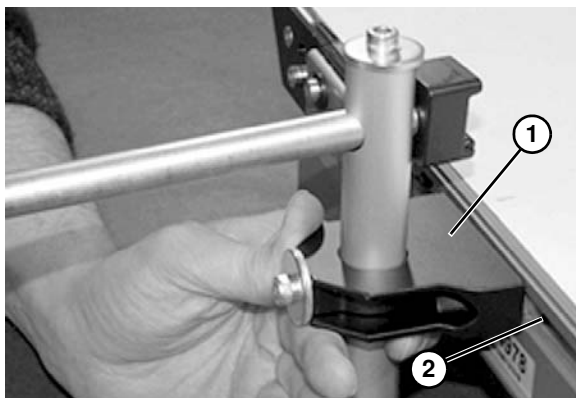

Figure 22
1. Install guide bracket assembly (**Figure 22, item 1**) into the conveyor t-slot (**Figure 22, item 2**).